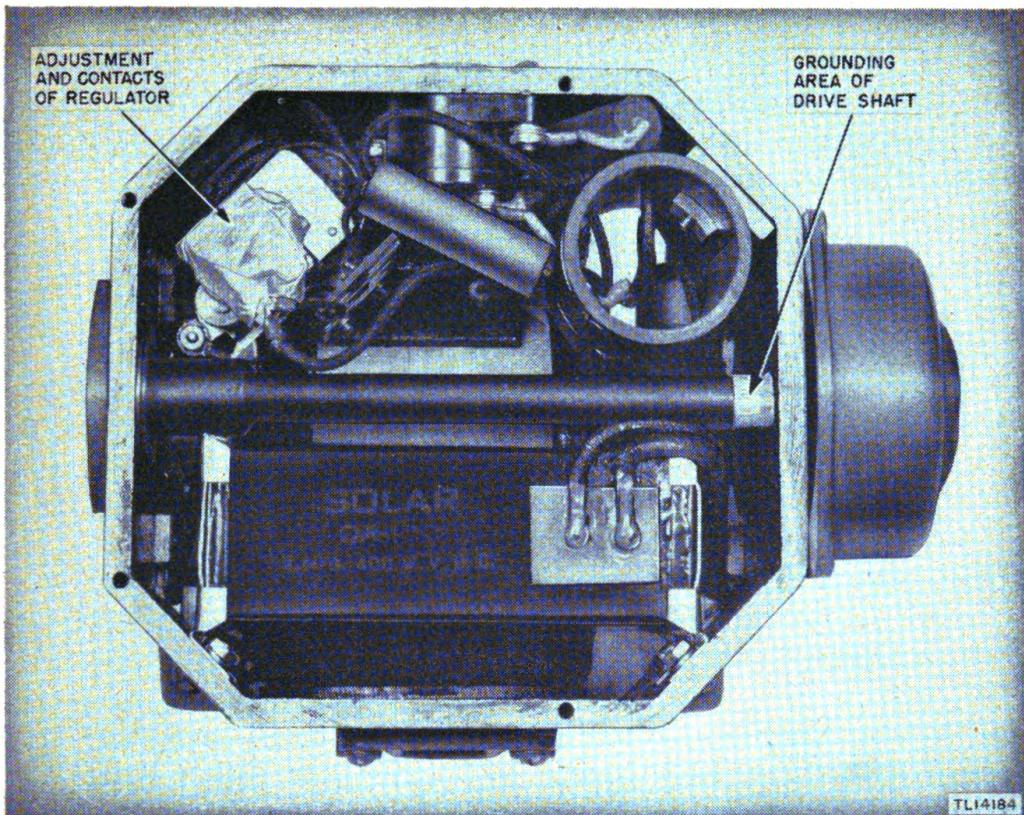

FIGURE 40.—Generator GN-44()—view with top cover removed showing method of masking parts.
- (3) Adjustment and contacts of regulator (fig. 40).
- (4) Grounding area of drive shaft (fig. 40).